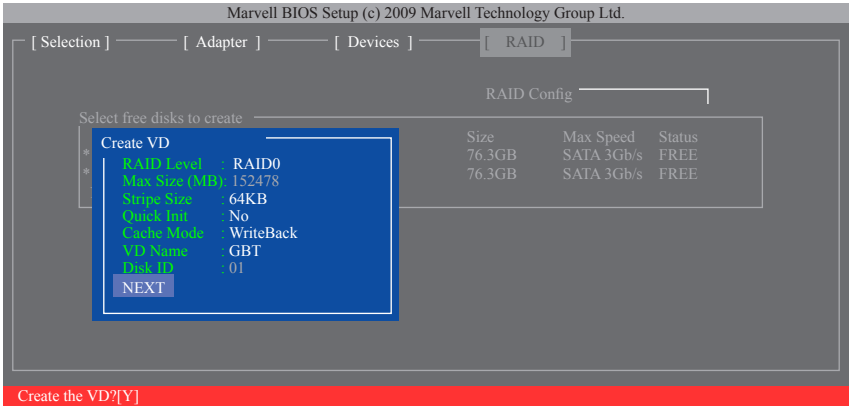

Figure 7
6. **NEXT:** After completing the settings above, move to **NEXT** and press <Enter> to begin creating the array. When prompted to confirm, press <Y> to confirm or <N> to cancel (Figure 7).